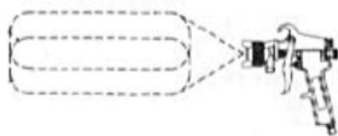

Fig. 5
4. Overlap each stroke by about 50% to ensure 100% coverage. (Fig. 5).